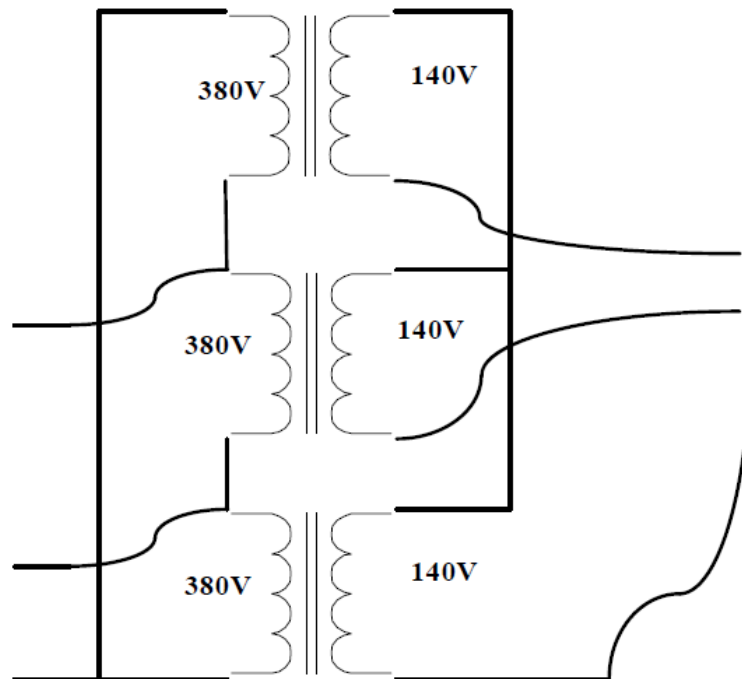

Figure 1.
1. Make all necessary connections, so that the test transformer is 380/242.5 V, delta wye as depicted in Figure 1.